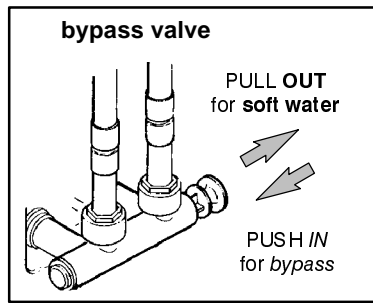

Figure 1
1. Push the bypass valve stem in for bypass. **Figure 1.**
23. SLOWLY MOVE THE BYPASS VALVE STEM TOWARD THE SOFT WATER POSITION, PAUSING SEVERAL TIMES TO ALLOW UNIT TO PRESSURIZE. **Figure 1.**